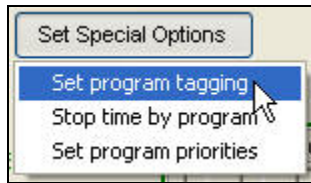

Figure 16.1.12D
9. You can enter a name for each program by clicking on the **Set Special Options** and scrolling down. Select the **Set program tagging** button (Figure 16.1.12D).